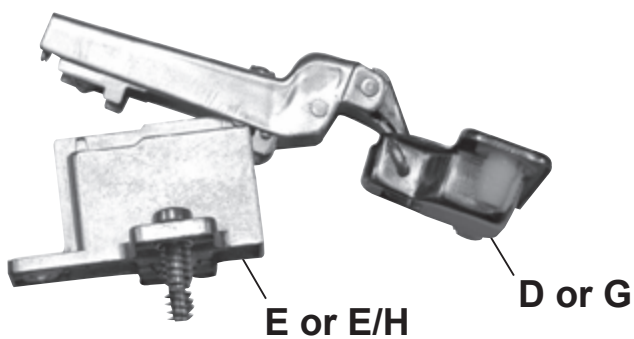

Fig. 2
2. Snap the handle of the Hinges (D or G) down on to each of the Hinge Plates (E or E/H) as seen in Figures 2 and 2a.